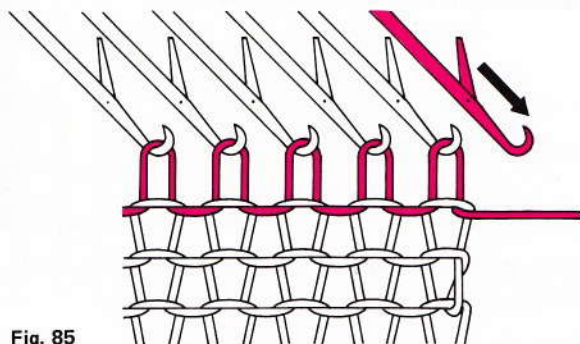

Fig. 85
- When the carriage is on the right bring the first needle at the right from position A to position B (fig. 85). Continue knitting.
- Bring the first needle at the right or left from A to B position (fig. 85).